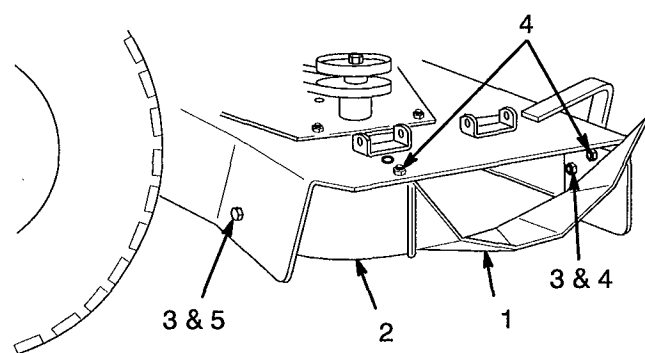

Figure 5
7. Position (2) mounting holes of deflector on top of mating baffle holes (Fig. 5). Install the deflector and baffle on mower deck with (2) 5/16-18 x 3/4 bolts and lock nuts.
8. Using deflector (at front) and baffle (at rear) as a guide, mark and drill (2) 11/32 in. holes in mower.
9. Finish secure deflector and baffle to mower with (1) 5/16-18 x 3/4 in. bolt and lock nut at the front and (1) 5/16-18 x 1/2 in. thread forming bolt at the rear (Fig. 5).